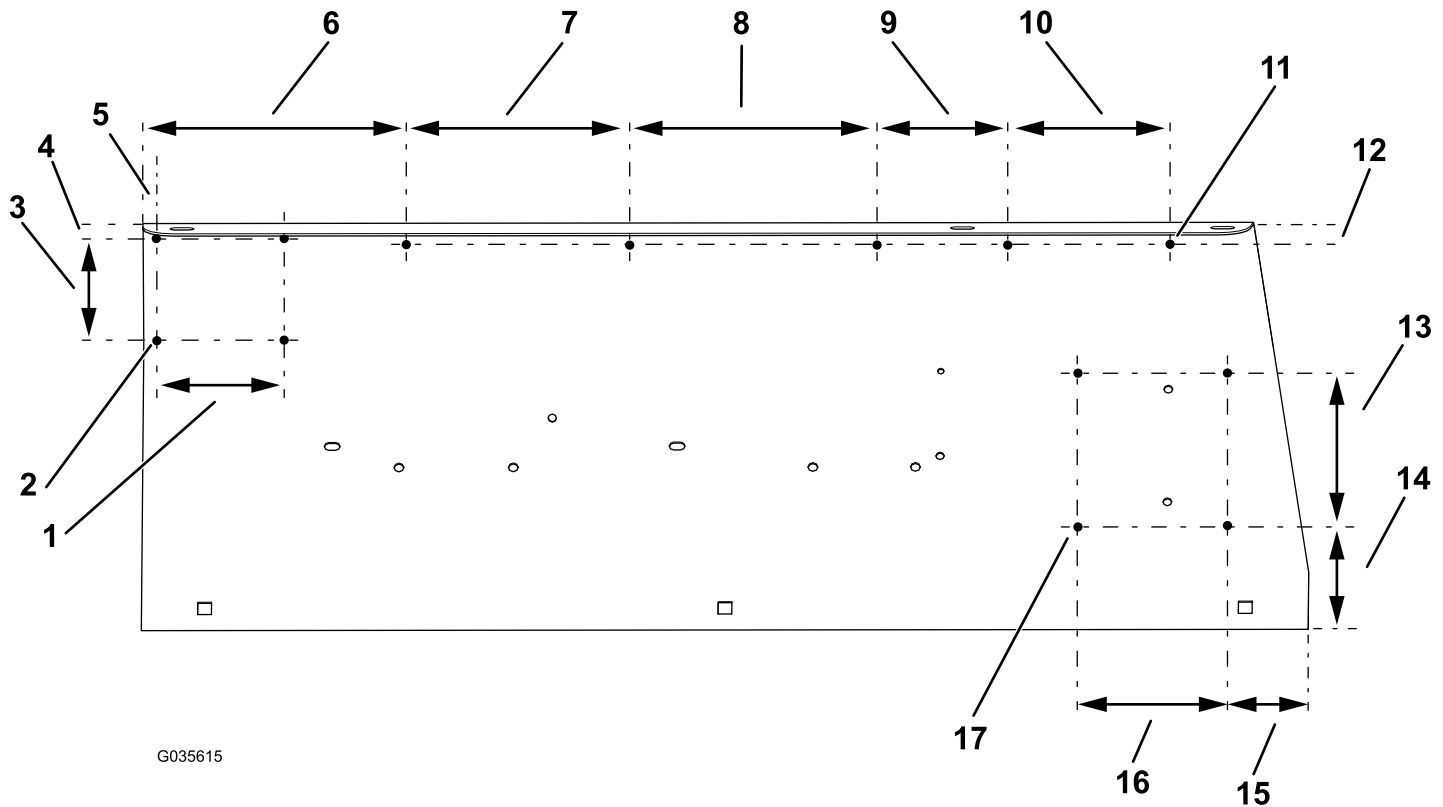

Figure 4
1. Drill 13 holes into the fender guard; refer to Figure 4 for the appropriate hole locations and diameter.
Note: Do not drill Item 11 in Figure 4 oversized as the wire harness will not hold with clips provided.